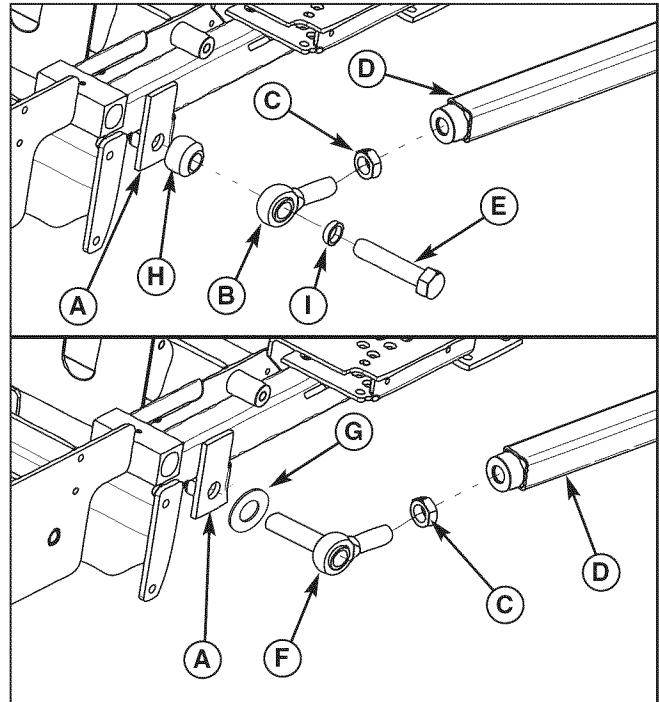

Figure 4. Ball Joints
3. Remove 3/4" bolt (E, Figure 4) that attaches the ball joint to the tractor frame (A). Discard the spacers (H and I) and 3/4" bolt (E).
4. Remove the ball joint (B) from the suspension arm (D).
5. Remove the jam nut (C) from the existing ball joint and thread onto the ball joint provided with kit (F). Discard the existing ball joint (B). Thread new ball joint into the suspension arm to the approximate measurement taken in step 2, allowing for correct orientation (Refer to Figure 4) of the ball joint to the tractor frame.
6. Install the ball joint stud through the 3/4" washer (G) and the tractor frame and tighten securing nut. Tighten jam nut on the shank of the ball joint against the suspension arm.